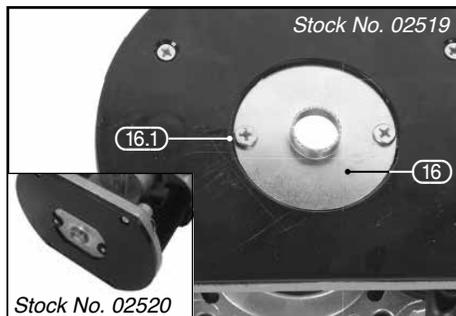

FIG.10
9.5 TEMPLATE FOLLOWER – FIG. 10